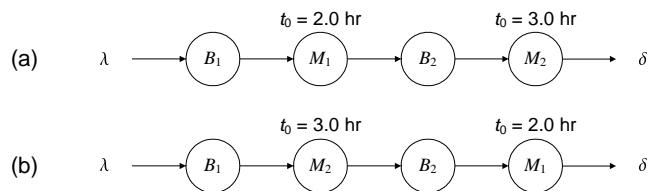

Figure 4.10: Two flowline configurations
Exercise 52. (*Exercise 2.3.4 [1]*) Consider a two-workstation flowline with two machines. The two machines have a process time of 2.0 and 3.0 hours respectively. The machines may be placed in any order. The two alternatives are shown in Figure 4.10.
1. What is δ_{\max} for the line in Figure 4.10(a)?
3. What is δ_{\max} for the line in Figure 4.10(b)?